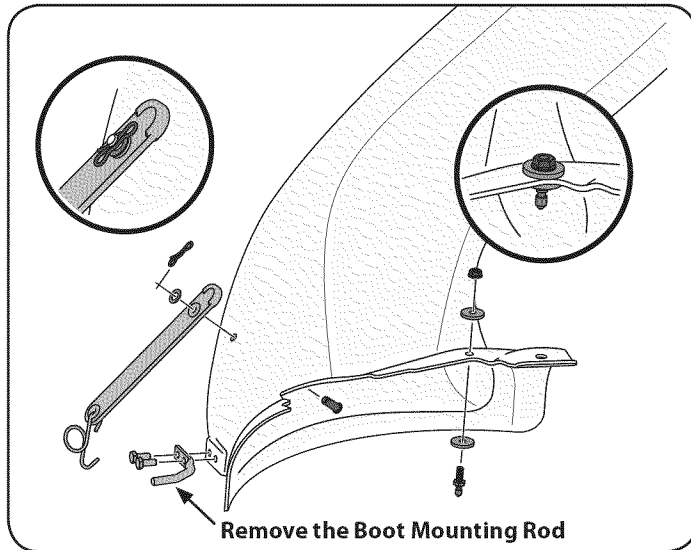

Figure 18
1. Install the rubber chute strap, from hardware pack 689-00313, onto the chute elbow using the clevis pin (711-05063), washer (736-0204) and Bow-tie cotter pin (714-04040) from hardware pack 689-00313. See Figure 18. Secure the end of the strap utilizing the hole furthest from the end, insert the torsion spring hook (732-04510A) into the other end.
Note: On decks with front deck wheels, the boot mount rod must be removed in order to install this discharge chute elbow onto the tractor. See Figure 18.
2. Install the deck mounting pin (711-05049) up into the chute elbow using two flat washers (736-0176) from hardware pack 689-00313 and secure with a flange lock nut (712-3027), as seen in Figure 18.